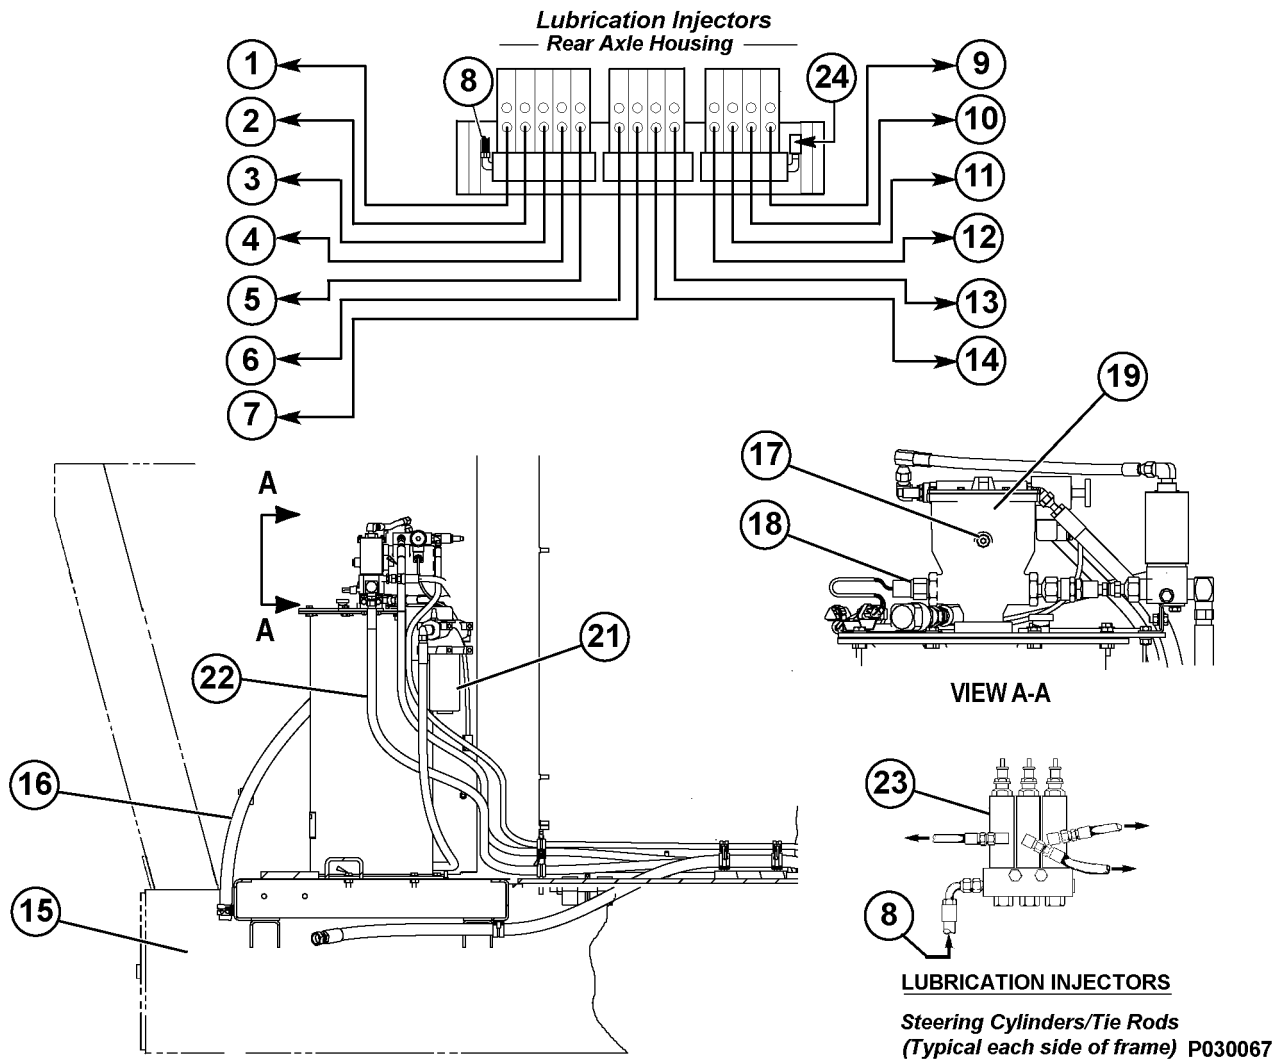
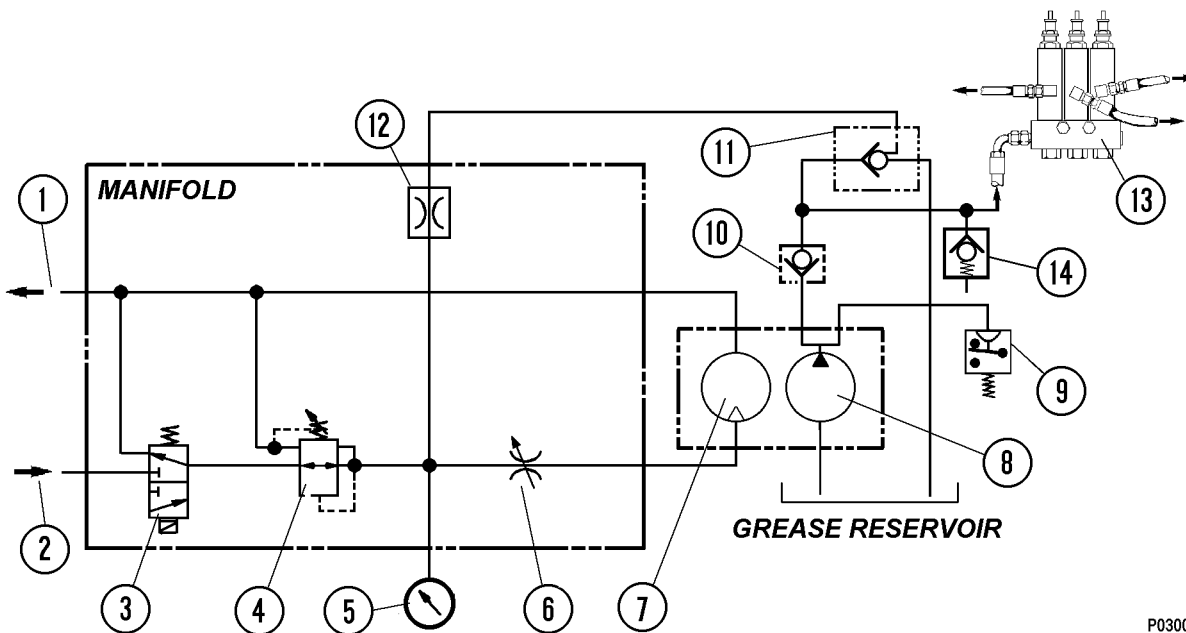

FIGURE 42-2. AUTOMATIC LUBRICATION SYSTEM INSTALLATION
FIGURE 42-3. HYDRAULIC SCHEMATIC
Filter assembly (21, Figure 42-2) mounted on the grease reservoir filters the grease prior to refilling the reservoir from the shop supply. A bypass indicator alerts service personnel when the filter requires replacement.
NOTE: The pump crankcase oil level must be maintained to the level of the pipe plug (17, Figure 42-2) or use the dip stick. If necessary, refill with 10W-30 motor oil.
The solid state lubrication cycle timer provides a 24 VDC timed-interval signal to energize solenoid valve (3, Figure 42-3) providing oil flow to operate the grease pump motor. This timer is mounted in the Electrical Interface Cabinet.
Pressure switch (18, Figure 42-2) is a normally open switch set at 20 684 kPa (3,000 psi). This switch de-energizes the pump solenoid relay if the grease line pressure reaches the switch pressure setting, turning off the motor and pump.
Pressure switch (24, Figure 42-2) is a normally open switch set at 13 789 kPa (2,000 psi). If the appropriate grease pressure is not achieved during the normal pump cycle, the warning system will be activated, illuminating the warning lamp in the overhead display to notify the operator a problem exists in the lube system.
Each injector (23, Figure 42-2) delivers a controlled amount of pressurized lubricant to a designated lube point. Refer to Figure 42-2 for locations.
Relief valve (14, Figure 42-3) protects the pump from high pressures. This relief valve is set at 27 580 kPa (4,000 psi).
2. The timer provides 24 VDC to energize the pump solenoid valve (3, Figure 42-3), allowing hydraulic oil provided by the truck steering pump circuit to flow to the pump motor and initiate a pumping cycle.
3. The hydraulic oil from the steering circuit is directed through the pressure reducing valve (4) and flow control valve (6) before entering the motor. Pump pressure can be read on optional pressure gauge (5) mounted on the manifold.
4. With oil flowing into the hydraulic motor, the grease pump will operate, pumping grease from the reservoir to the injectors (13), through a check valve (10) and to the vent valve (11).
6. When grease pressure reaches pressure switch (18, Figure 42-2) setting, the switch contacts will close and energize the relay RB7-K5, removing power from the hydraulic motor/pump solenoid and the pump will stop. The relay will remain energized until grease pressure drops (pressure switch opens again) and the timer turns off.
7. After the pump solenoid valve is de-energized, hydraulic pressure in the manifold drops and vent valve (11, Figure 42-3) will open, releasing grease pressure in the lines to the injector banks. When this occurs, the injectors are then able to recharge for the next lubrication cycle.